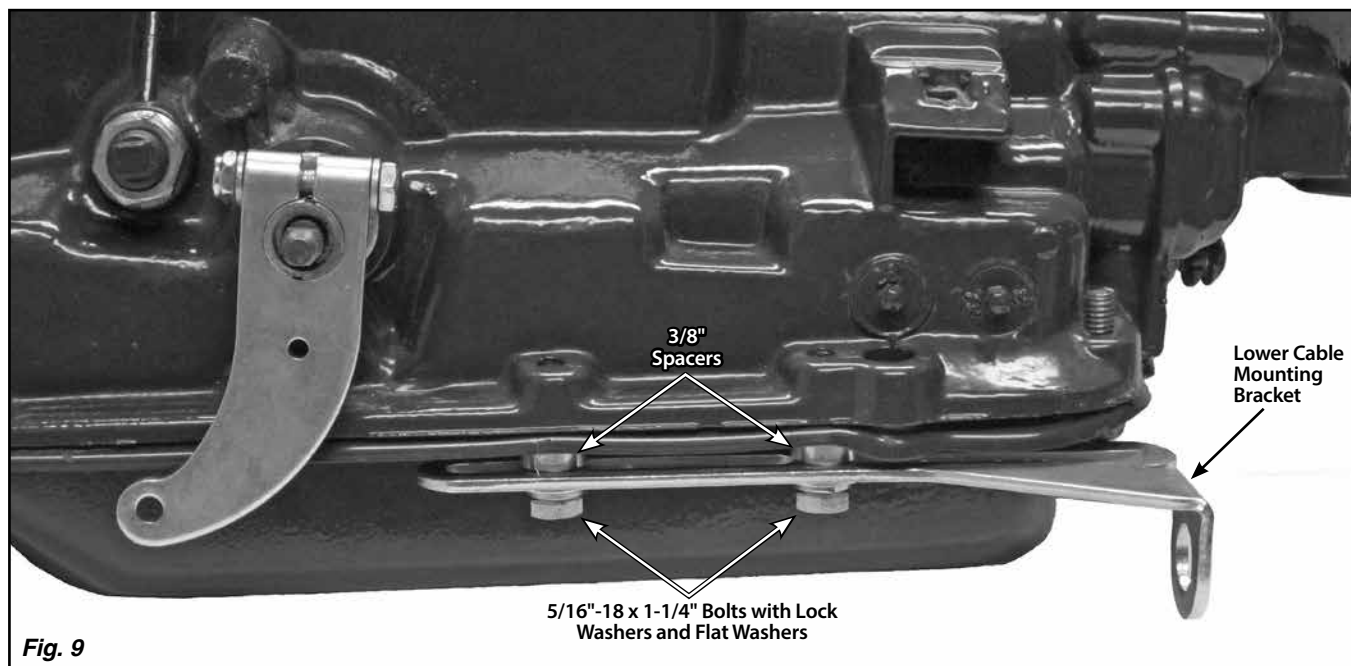

Fig. 9
**Step 8:** Install the lower cable mounting bracket on the left side of the transmission pan, using the provided 5/16"-18 x 1-1/4" bolts with lock washers, flat washers, and 3/8" spacers. The C6 uses the two pan bolts directly behind the selector shaft. **Fig. 9**